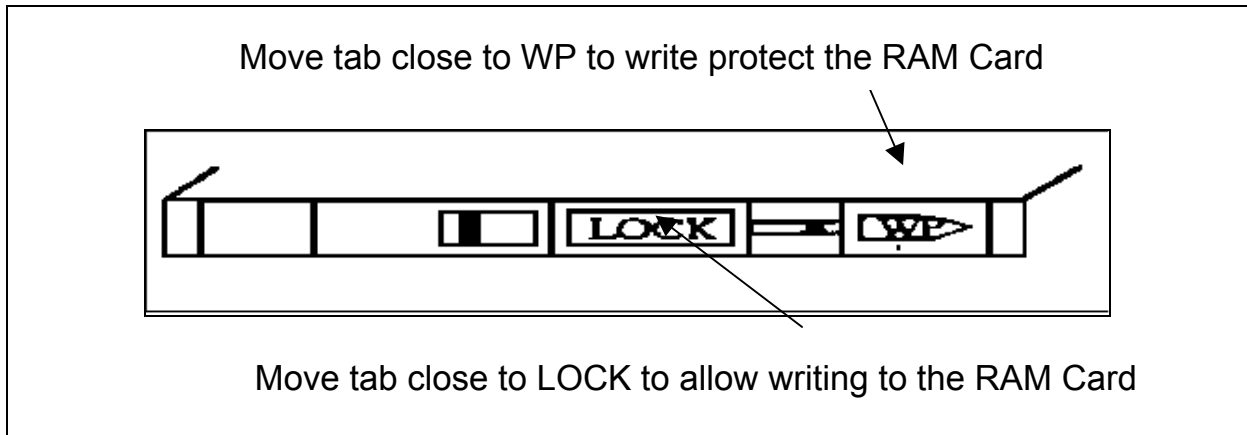

FIGURE 11-2: RAM Card Write protection position
1. Disable card write protection by following the instructions included with the RAM card. To allow the card to be written to, slide the black tab to the LOCK position (see Figure 11-2).